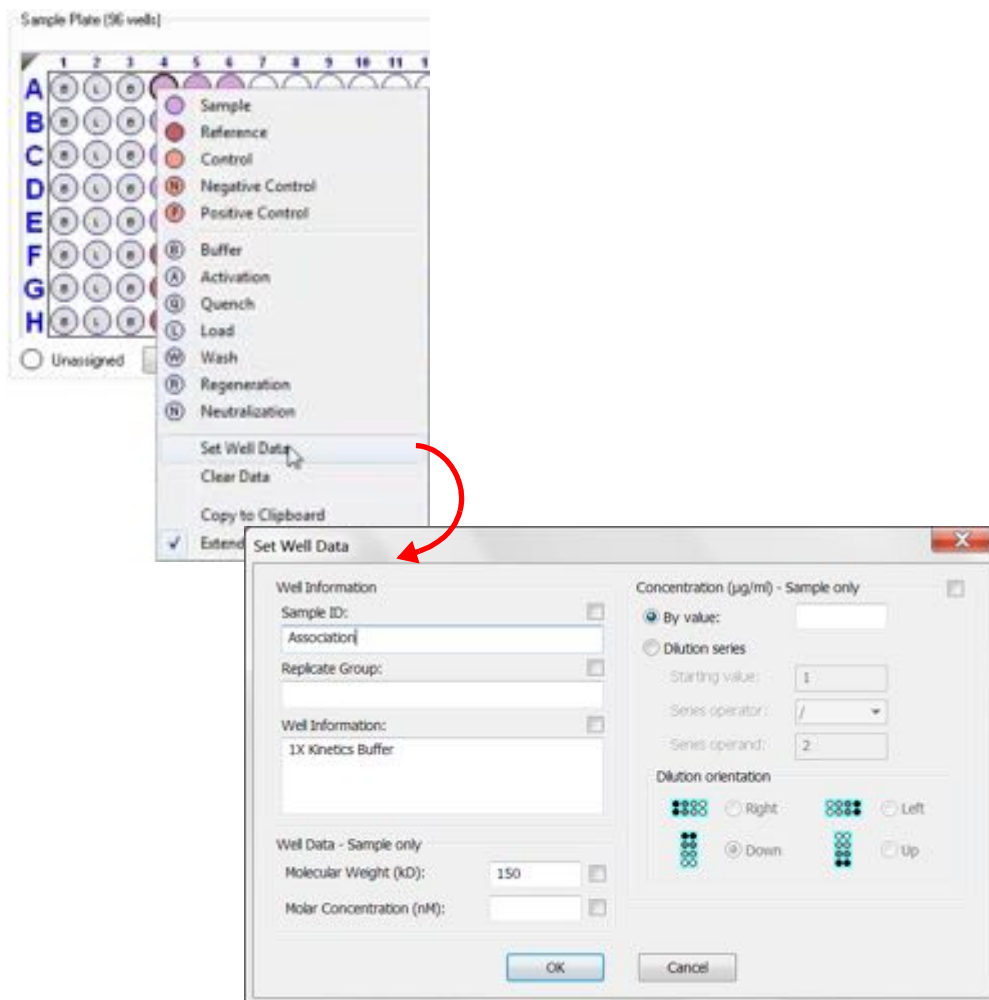

Figure 8-10: Add Sample Annotations from the Sample Plate Map
2. In the **Set Well Data** dialog box (see Figure 8-10), enter the **Sample ID** and/or **Well Information** and click **OK**.